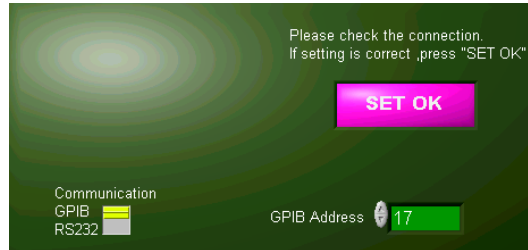

Figure 3-3 Communication Selection
- Communication Selection: It sets the communication protocol of PC and AC Source. Chroma 11200 Soft Panel provides the communication protocols of GPIB and RS232 as Figure 3-3 shows. When selecting GPIB as the communicating protocol there must have a GPIB card in PC.